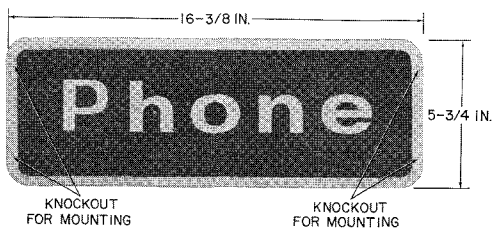

Fig. 13—KS-20125, List 1 Sign
(a) KS-20125, List 1 sign (Fig. 13):
3.12 These signs may be mounted on flat surfaces or perpendicular to a wall (Fig. 13 or 14).